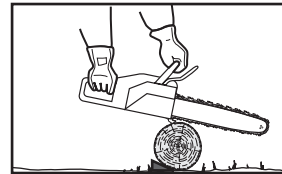

**Fig. 33**
4. When bucking on a slope always stand on the uphill side of the log (Fig. 33). When “cutting through”, to maintain complete control release the cutting pressure near the end of the cut without relaxing your grip on the product handles. Don't let the chain contact the ground. After completing the cut, wait for the saw chain to stop before you move the product. Always stop the motor before moving from tree to tree.